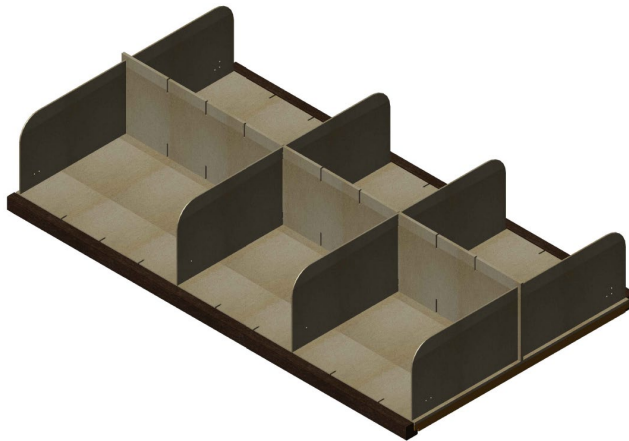

FIGURE 5 – RESINDEK® SHELVING SYSTEM
3.2.1 General: ResinDek® Shelving System, as shown in Figure 5, can be used to store and support case goods in a rack or shelving structure inside a warehouse, distribution or manufacturing center.